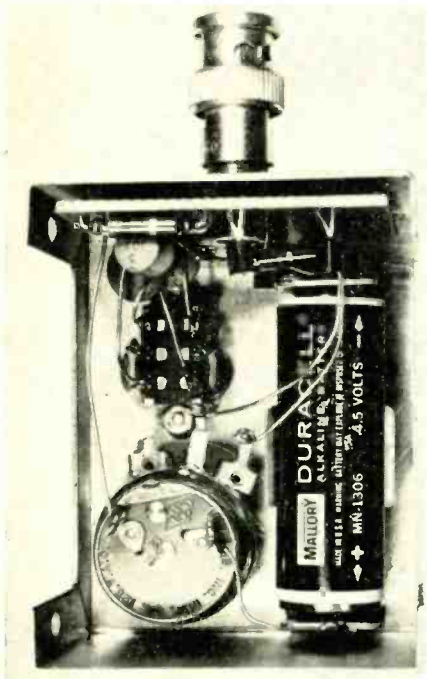

Fig. 7—UNDERSIDE OF POCKET PIPPER with all parts in place. Note how unused lug has been clipped off the potentiometer.
Final hookup is done hooking the eight (8) wires from the PC board to the controls and battery holder. Use Figs. 5 and 6 (on the first page of this article) as guides connecting the leads between points marked by circled letters. The lead dress of the leads from R7 should be as shown in Fig. 7. One extra lead (X-X) has to be installed from the plus side of the battery holder to switch S1 on R7. Install the battery and check the Pipper for proper operation.